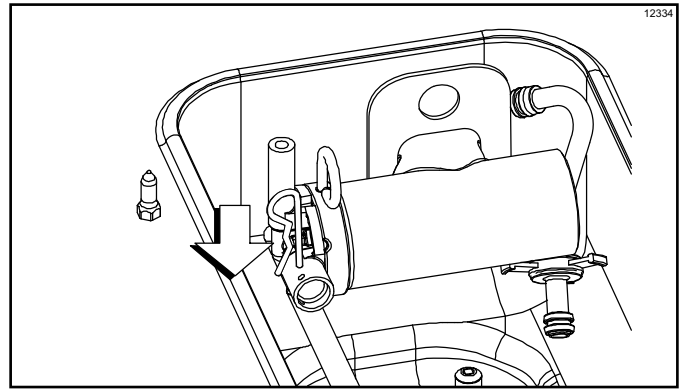

Figure 6-43
15. Remove the cotter pin from the pump. Remove the feed tube and position it as shown in the illustration below. Place the cotter pin in position on the outlet fitting of the pump assembly. (See Figure 6-43.)